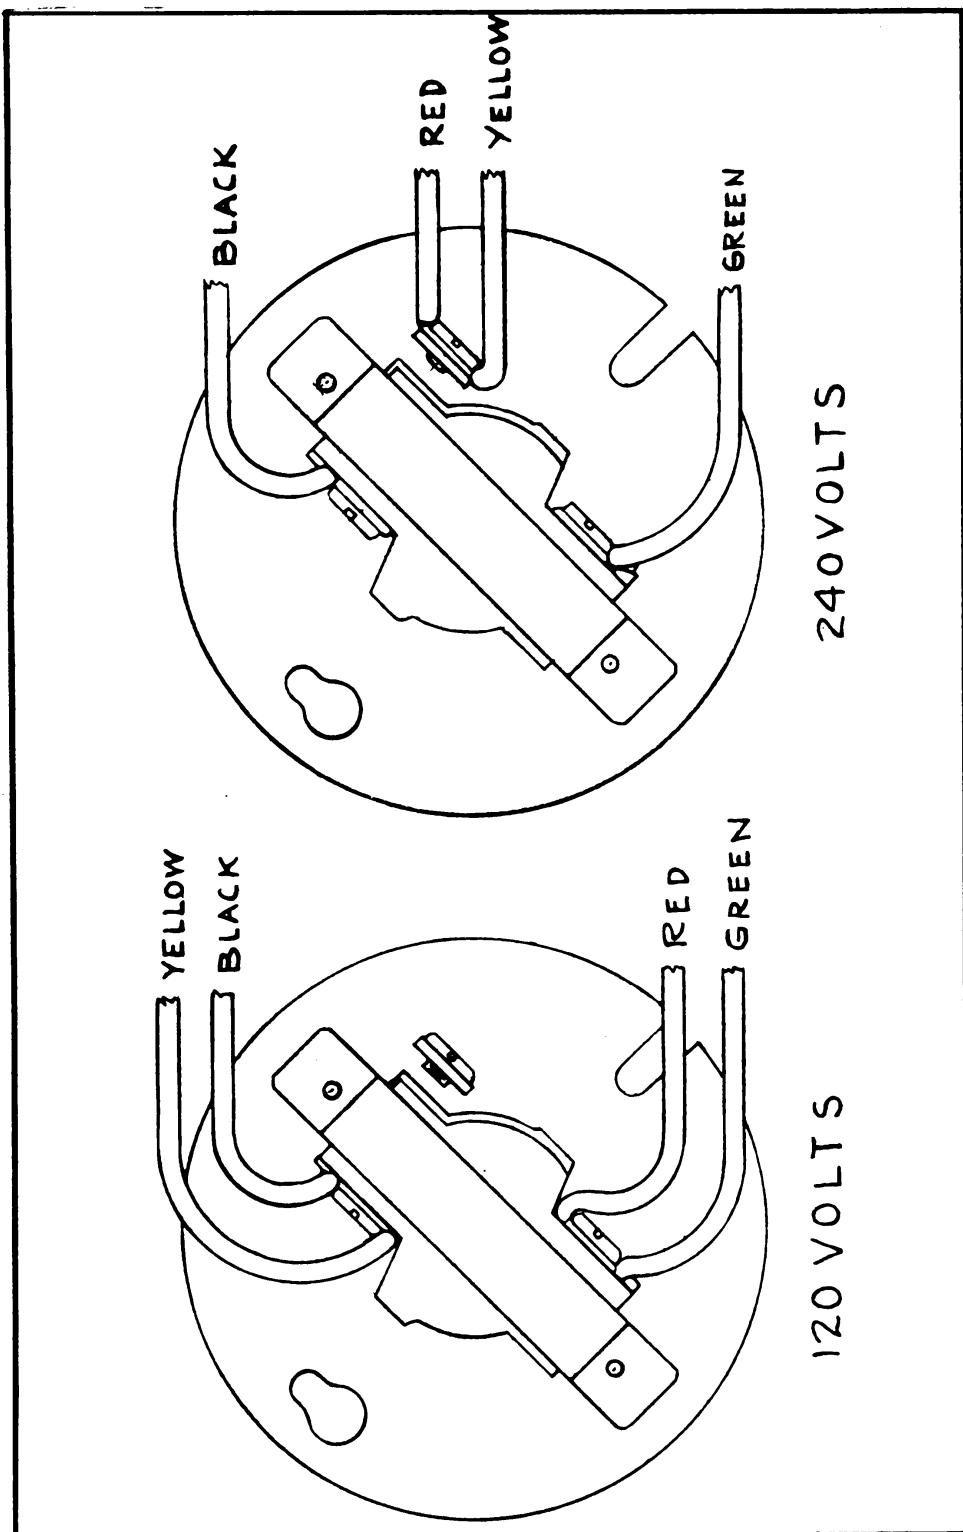

FIG. 5—POWER UNIT PE-214-A, VOLTAGE RECONNECTION
b. *Generator Operation.*—CAUTION:—BE SURE GENERATOR IS CONNECTED FOR DESIRED VOLTAGE BEFORE OPERATING. (See Fig. 5, Page 14.)
(1) Be sure that the connections in the outlet box are properly made for the desired voltage according to diagram. (Fig. 5, Page 14.)
(2) Be sure that generator is not overloaded or short circuited for long periods of time. The generator will stand short periods of overload and may even be loaded continuously to 350 watts without damage, but greater overloads or short circuits for long periods of time will overheat and destroy the windings.
c. *Voltage Change Instructions.*—The windings of the generator are so arranged that by reconnection (See Fig. 5, Page 14) either 120 or 240 volts may be obtained. To change the voltage, first remove outlet cover (155) on the end of generator by loosening the two fastening screws (197). Then follow these directions: